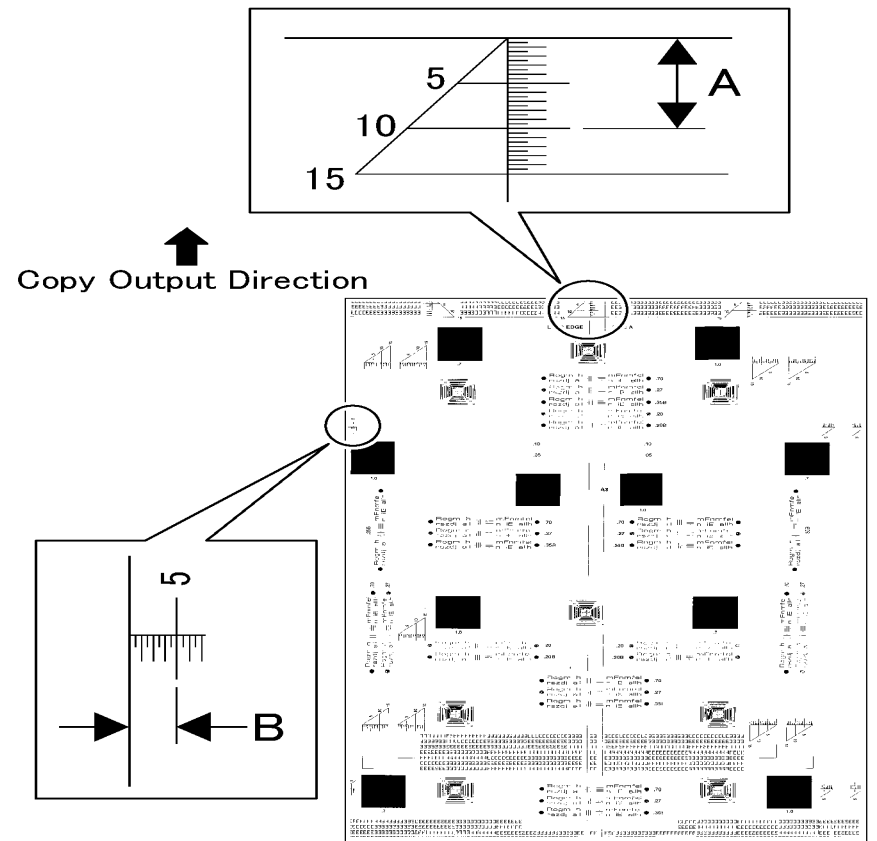

Figure 1 IIT Registration (j0st41137)
2. Measure the Lead Edge and Side Edge of the third copy (Figure 1).